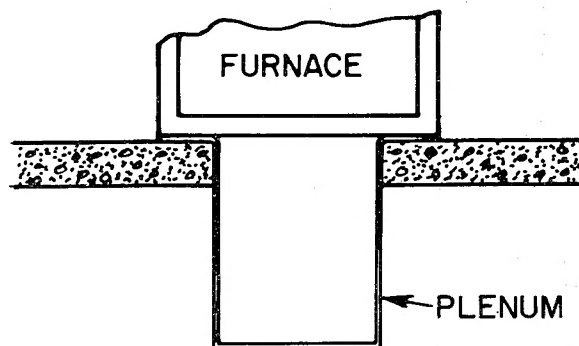

Figure 4—Furnace on a Concrete Slab
3. Place plenum and furnace as shown in Figure 4.